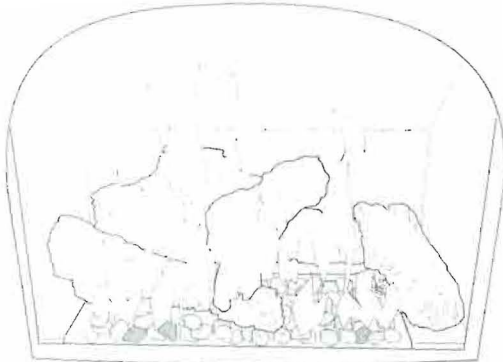

Figure 29. Flame appearance on the "high" setting after approximately 15 to 20 minutes burning.
3. **BURNER ADJUSTMENT:** This stove is equipped with a variable gas control valve that allows easy adjustment of the flame height appearance and heat output. To adjust the flame between the HI and LOW setting, rotate the HI/LOW knob, located in the center of the valve face. Fire intensity can be adjusted up to 50% between the LOW and HIGH settings. See fig. 29.